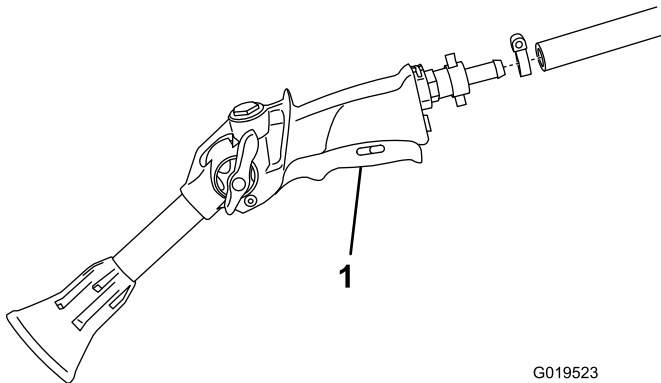

Figure 12
3. Connect the free end of the long hose to the fitting on the gun (Figure 12).